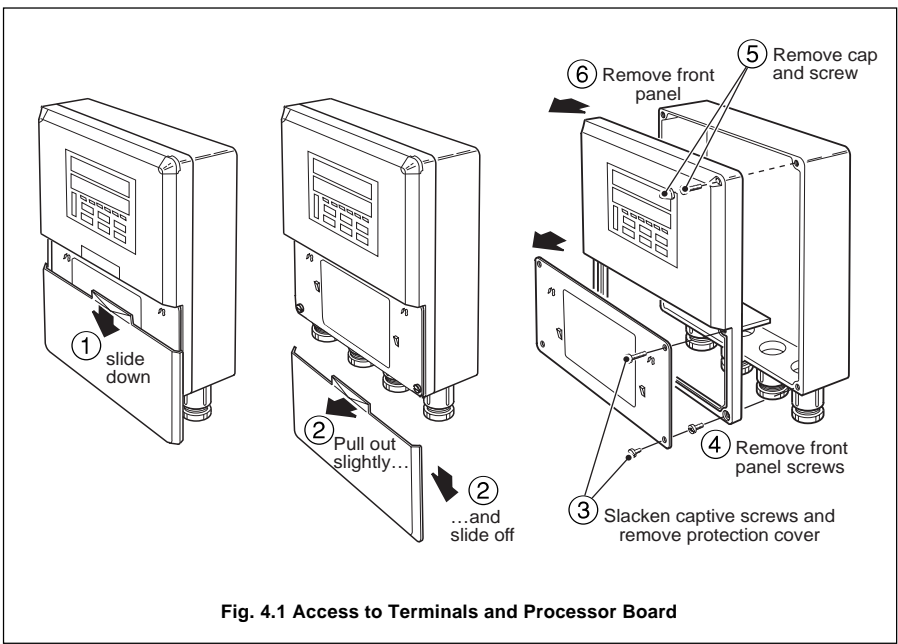

Fig. 4.1 Access to Terminals and Processor Board
### 4.1 Access to Terminals – Fig. 4.1
For access to terminals – refer to Fig. 4.1, steps ① to ③.
Remove the instrument front panel – see Fig. 4.1, steps ① to ⑥.